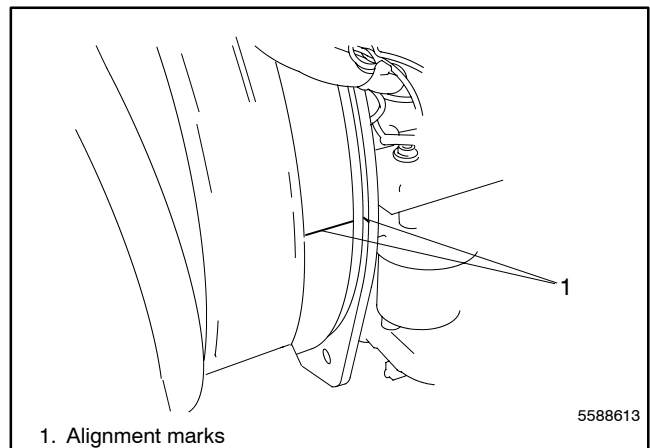

Figure 4-17 Alignment Marks
6. Check that the alignment marks on the stator housing and engine adapter match. See Figure 4-17.